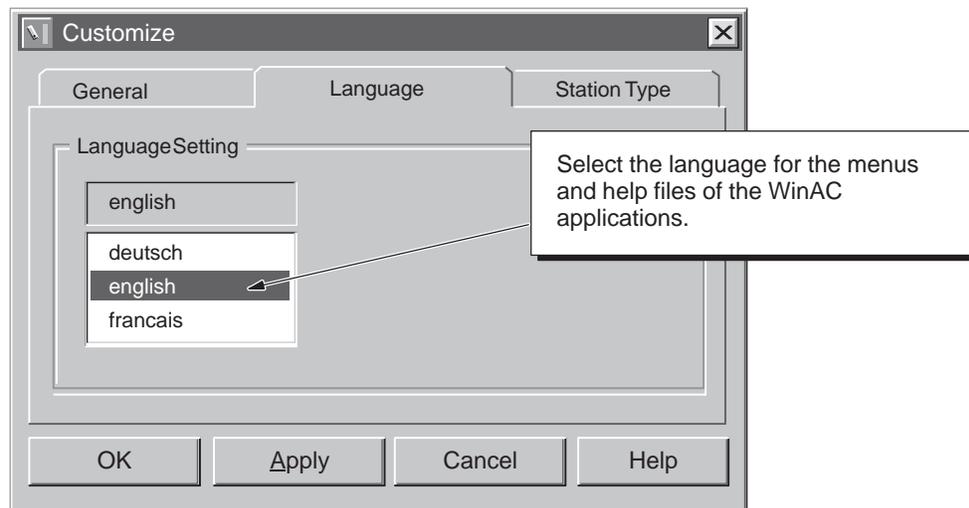

Figure 4-17 Selecting the Language for the CPU Panel and Help Files
3. Select the language for the CPU panel (German, English, or French). See Figure 4-17.